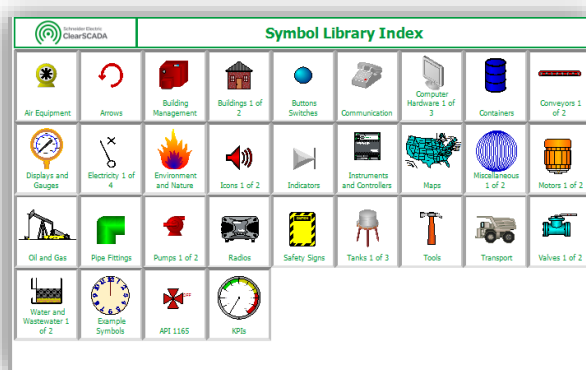

Figure 39. Symbol Library Index to find pump.
- On **Symbol Library Index** mimic (Figure 39)>click *Pumps* group.